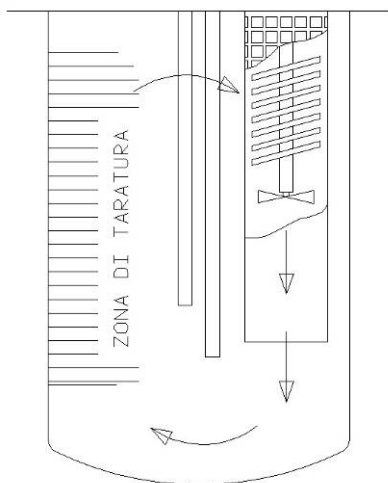

Fig.1
- The best calibration area is: 4÷5cm far from the bottom and from the top of the liquid (fig. 1).